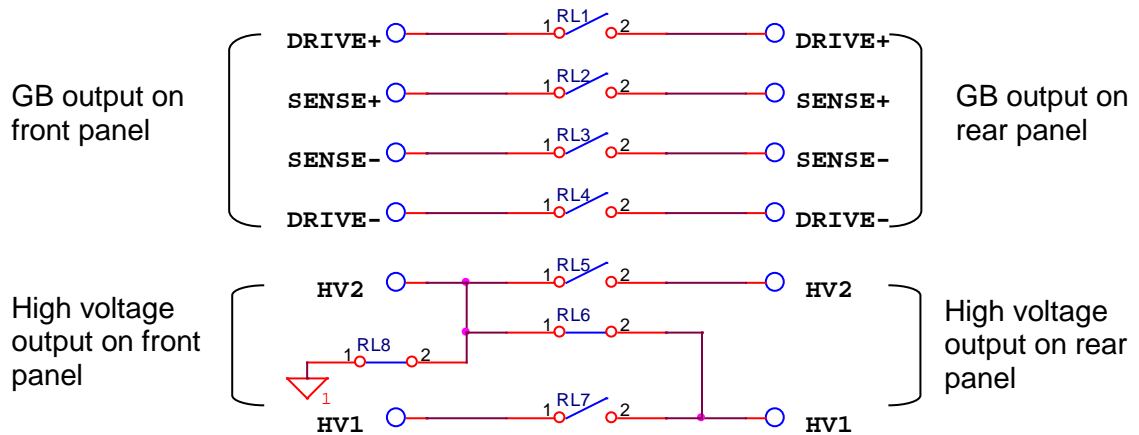

Figure 4-10
- iii. When Channel 3 set to L and HV1 terminal on rear panel set to low voltage terminal, connection diagram of front panel terminal and rear panel terminal is as *Figure 4-10* shown: